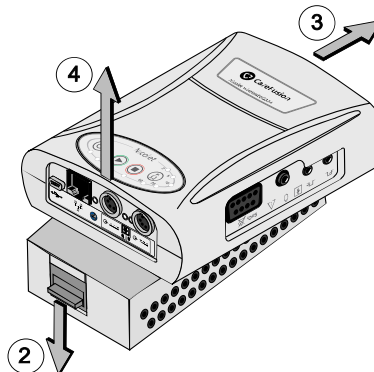

Figure 2
1. Press downward on the release **latch** (Figure 2).